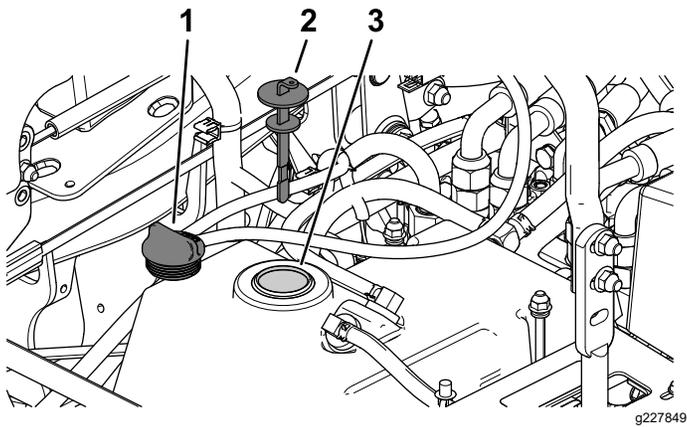

Figure 68
5. Remove the hydraulic-tank cap (Figure 68).
- Remove the dipstick and wipe it with a clean rag (Figure 68).